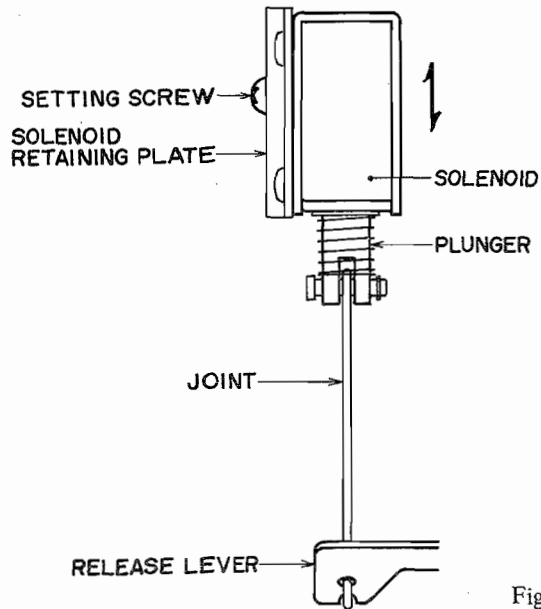

Fig. 18
8. AUTOMATIC STOP PLUNGER SOLENOID POSITION ADJUSTMENT (See Fig. 18)
- 1) Loosen the setting screw which fixes the solenoid so that the solenoid can be moved as indicated by the \longleftrightarrow mark in Fig. 18.